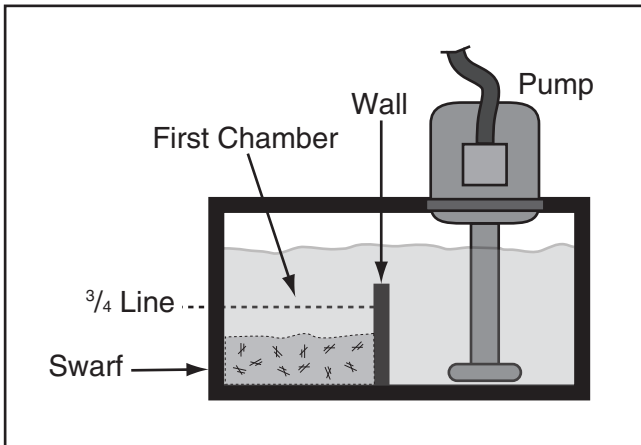

Figure 84. Diagram of coolant tank and pump.
- Use a flashlight and inspect the level of swarf inside the first chamber of the tank. If the swarf level is beyond $\frac{3}{4}$ the height of the partition wall, then the tank must be cleaned (see the illustration in **Figure 84**).